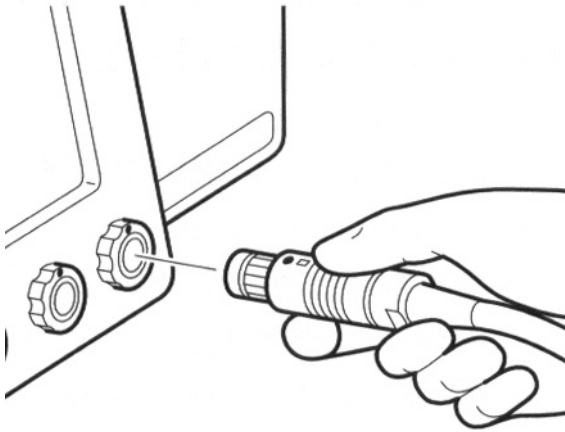

Figure 2: Connecting the handpiece to the Shaver Console
2. Gently push the cable connector into the port. It will lock in place (see Figure 2). (To disconnect the cable, grasp the cable connector and pull back on the connector collar.)